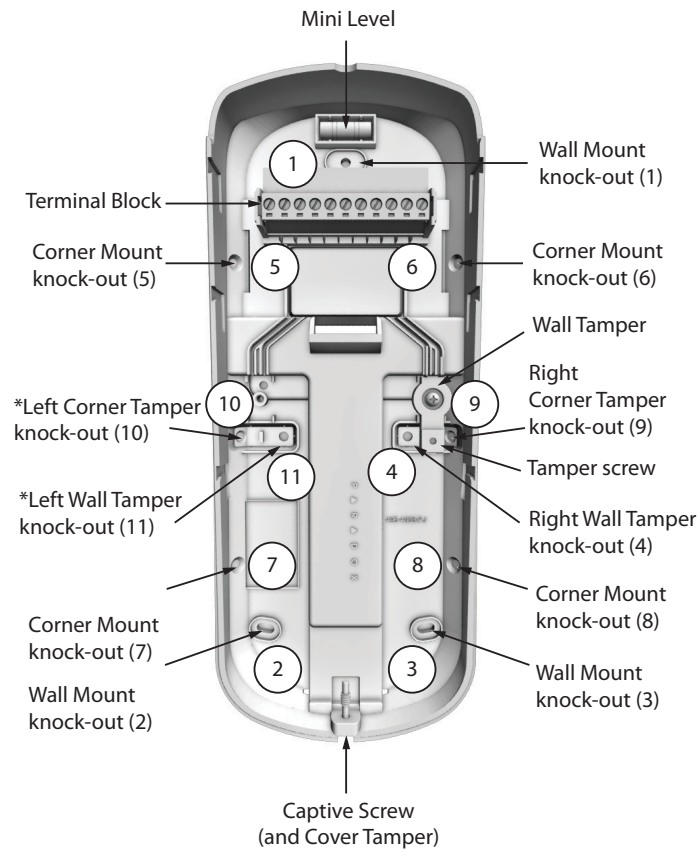

Figure 1: NVX80 Back Cover Components
3. Prepare the back cover for a wall-mount installation by drilling out the appropriate knock-out holes (see Figure 1).
8. Using a screw, secure the tamper switch to the back cover. (see Figure 1, "Tamper screw")